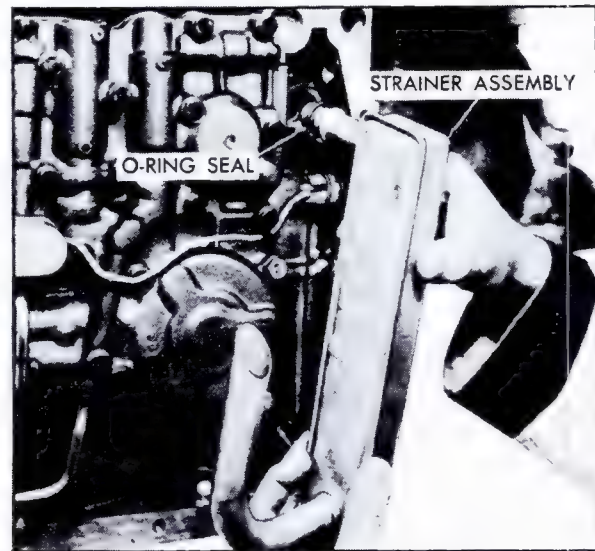

Fig. 7-155 Removing Intake Pipe and Strainer Assembly
4. Lift out intake pipe and strainer assembly, Fig. 7-155.
5. Remove and discard intake pipe O-ring, Fig. 7-155.